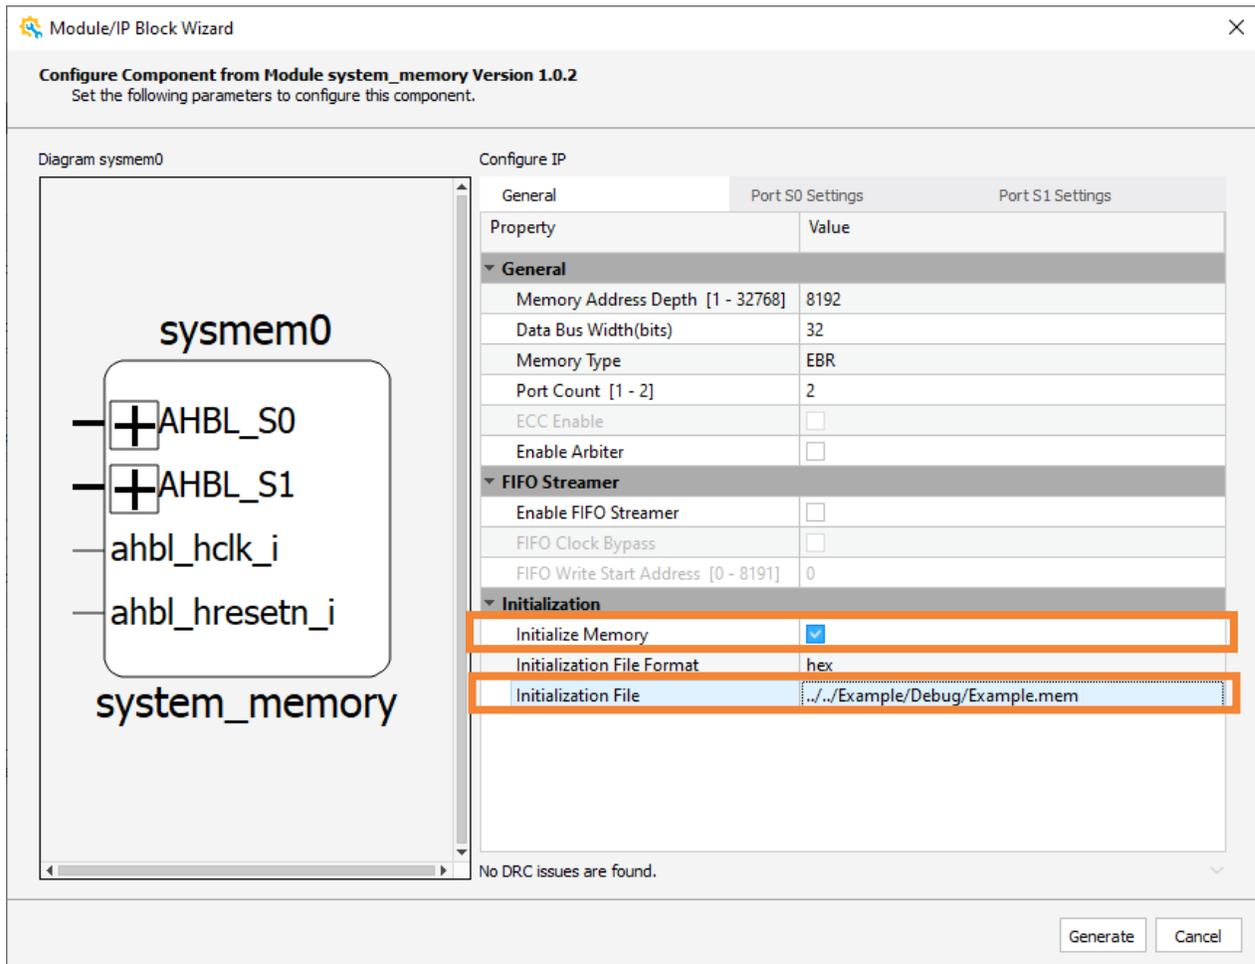

Figure 3.29. Configure Module System Memory
- Enable the checkbox for **Initialize Memory** for *system\_memory* IP module from the **Initialization** area of the **General** tab, and set **Initialization File** generated from the corresponding C/C++ project (Figure 3.29).